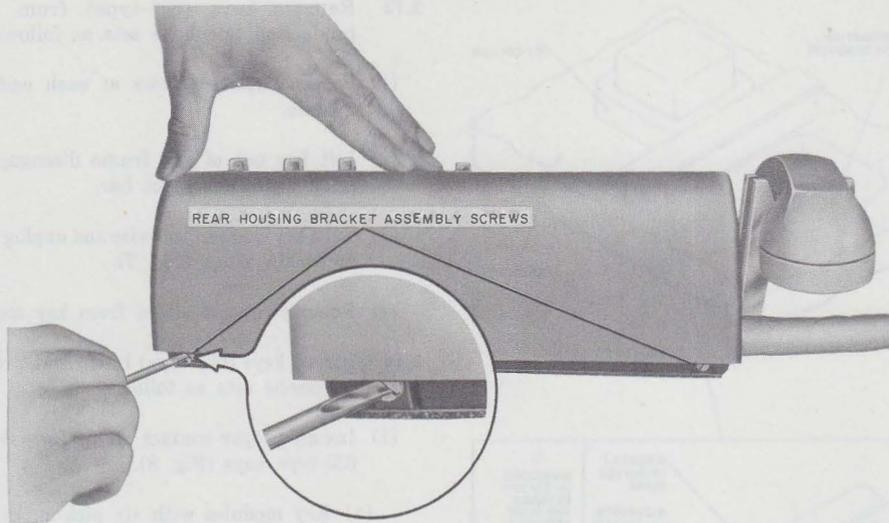

Fig. 5—Housing Retaining Screws
- (1) Remove faceplate and mat (2.03 or 2.05).
- (2) Loosen two screws at rear of housing (Fig. 5).
- (3) Raise rear of housing, move forward to disengage front mounting hooks, and lift off.
- (4) When replacing housing reverse procedure.